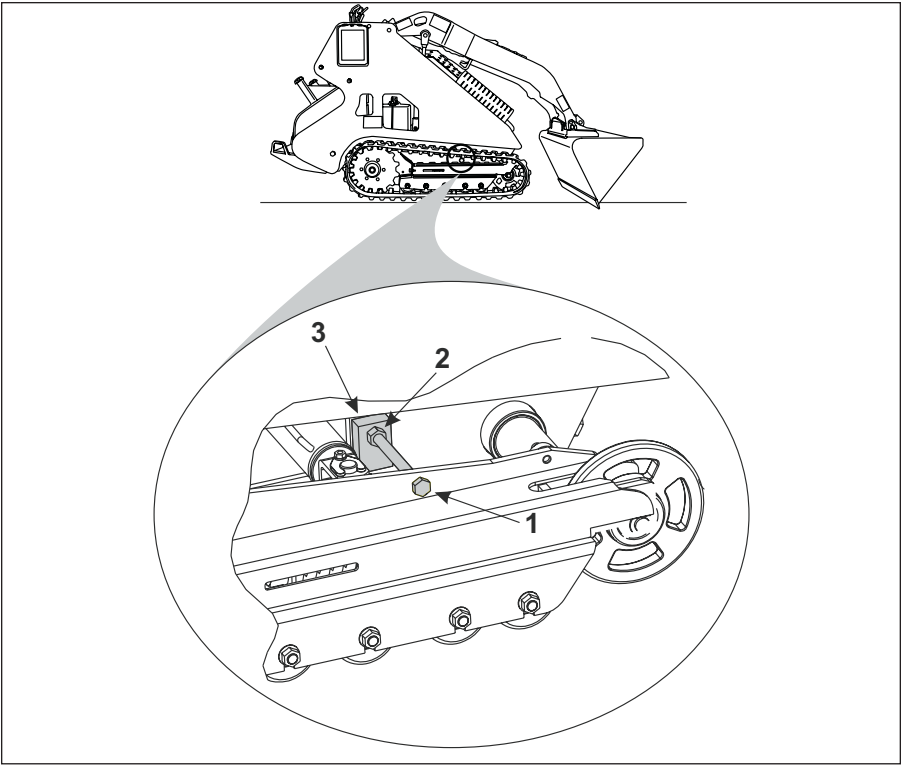

Figure 4-12 Track Extension (Widening) Stop Bolt
- Fully retract the tracks and make sure that the stop bolts (Item 1, **Figure 4-12**) are not bent or damaged.
- b. Make sure that the stop bolt lock nuts (Item 2, **Figure 4-12**) are tight against the mounting block (Item 3, **Figure 4-12**).